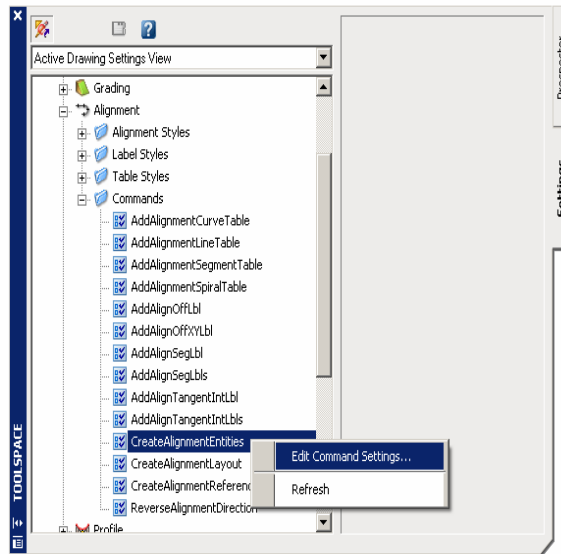

Figure 6B. Edit command settings.
- Change the command settings for an object so that you can provide greater control over how the object will be created or edited, as shown in Figure 6B. For example, you could define that all alignments created “by Polyline” would default to a different style and layer than alignments created using the Layout command.